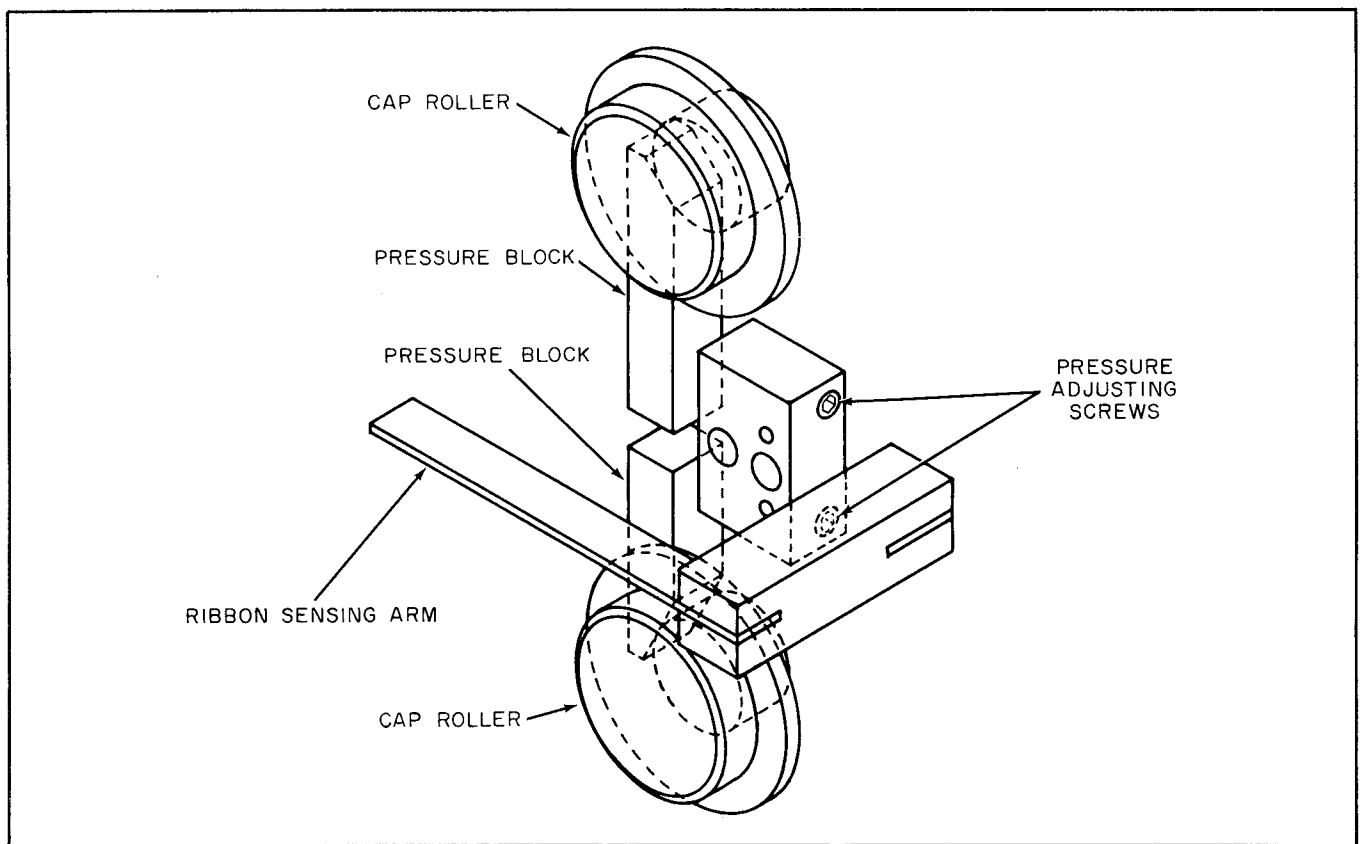

Figure 7-3. Ribbon Tension Adjustment
5. Turn the adjusting screw in the pressure block (Figure 7-3), located on the right-hand yoke near the cap roller of the ribbon and roll assembly, clockwise to increase tension and counterclockwise to decrease tension.